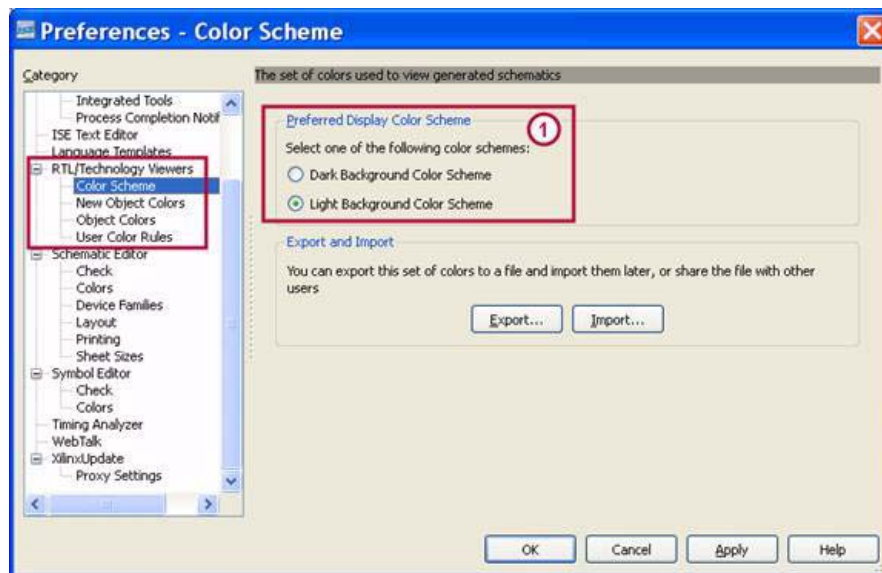

Figure 3-2: Color Scheme Selection
3. Select **Light Background Color Scheme** in zone 1 (see Figure 3-2) of the dialog box, click **Apply** and click **OK** to finish.